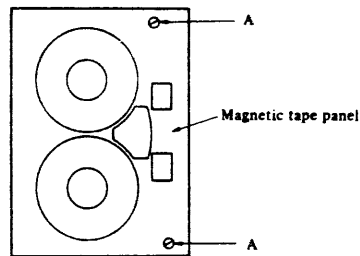

Figure 2.2.7 Mounting rails removal (1)
- (b) Loosen the two screws A indicated in Figure 2.2.7 and open the casting panel.
- e. Fix the screws indicated in Figure 2.2.7.
(3) The method of removing